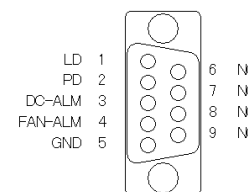

Figure 4 Alarm terminal pin assignment
- The alarm terminal's pin assignment is as shown in Figure 4. Its output format is an open collector configuration.